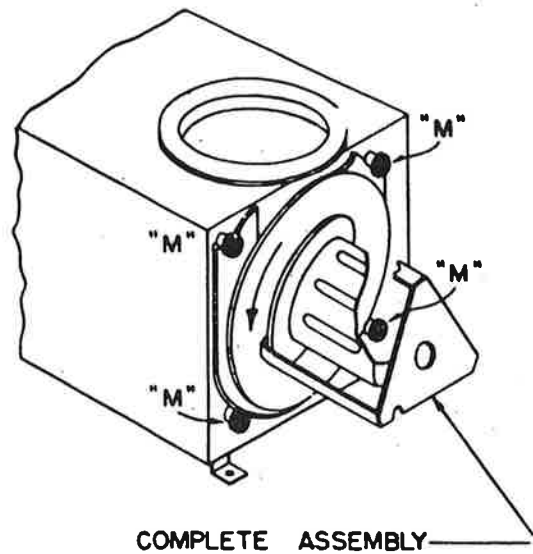

Figure 2-2—Removal of Tailpiece Assembly
1) (See figure 2-2). Loosen the four thumb nuts marked "M" which hold the complete assembly (tailpiece) to the optical box.